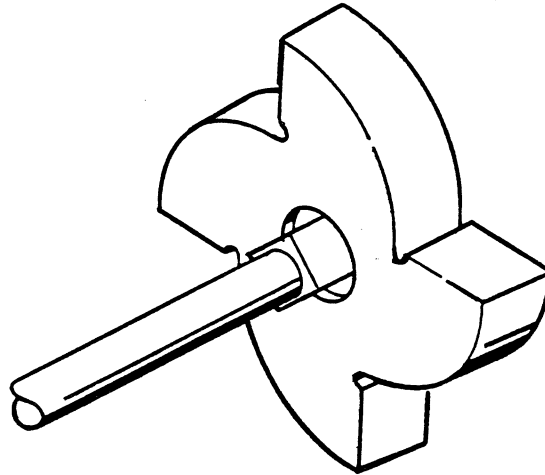

Figure 2. 48731-006 Impeller Tool With Drive Wrench
To remove the impeller (2), install a lathe dog on the end of the shaft (14) to prevent rotation and remove the impeller retaining hardware (34, 35, and 36). Install the impeller removal tool and use the end of a 1/2-inch drive ratchet extension (see Figure 2) to unscrew the impeller in a counterclockwise direction (when facing the impeller).